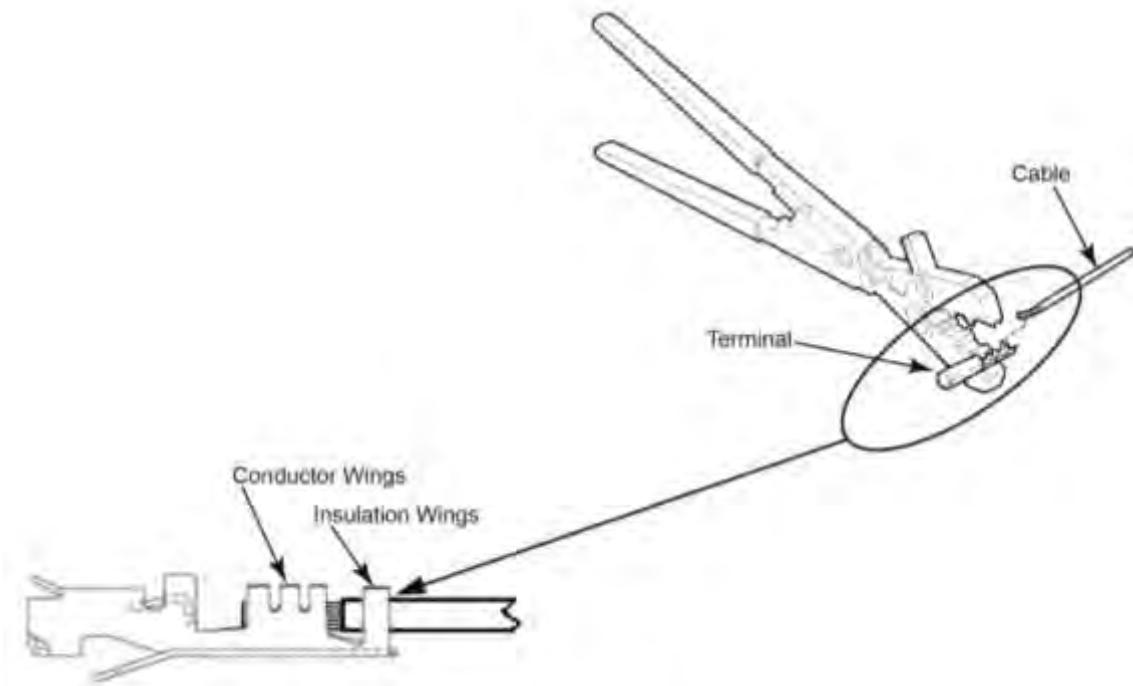

Figure 63
(6) Ensure there are no cuts, breaks, cracks, or splits in the insulation.
j. Crimp a contact onto the stripped end of each wire as shown in Figure 63.